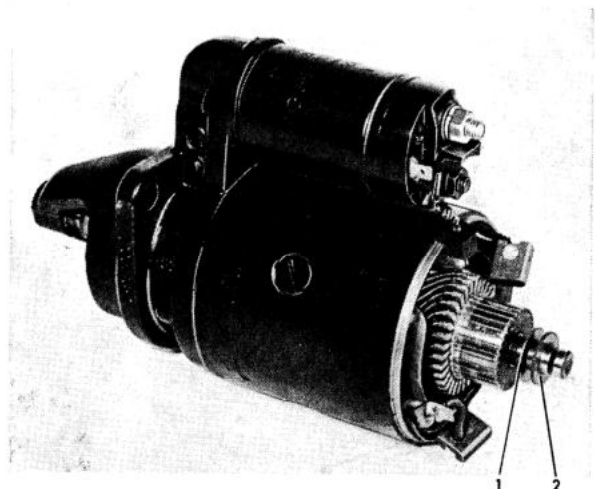

Fig. 3-34. Starter motor with brush bridge removed
5. Remove the bridge from the armature shaft. N.B. The washers are as shown in Fig. 3-34. When the bridge is removed, the “—” brushes follow also, but “+” brushes will remain in the field winding.
8. Fit the washers on the armature shaft as known in Fig. 3-34.